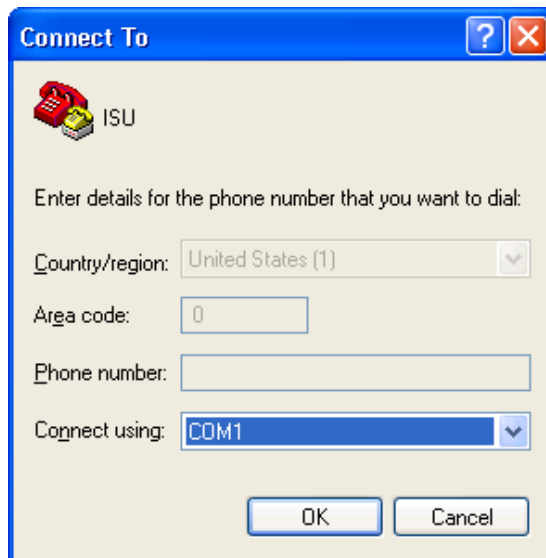
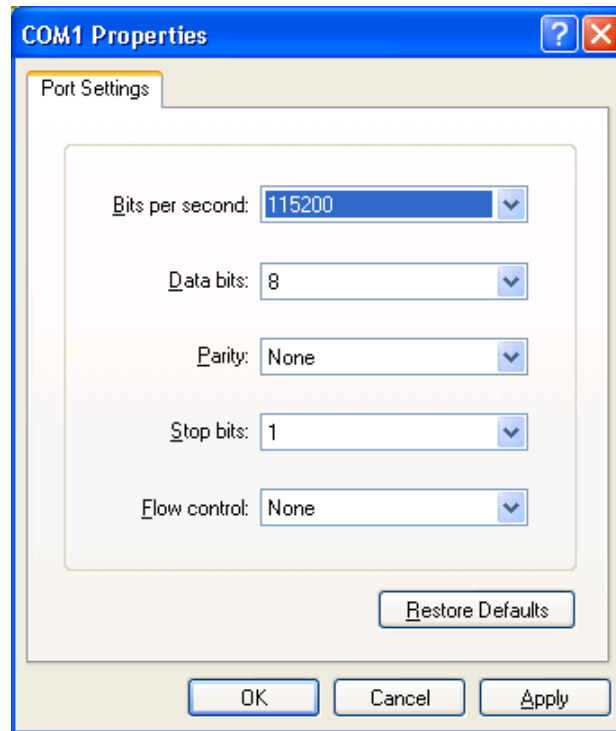

Figure 4-26 Connect to interface
Figure 4-27 Setting serial port parameters
2. Type 'ISU' in the **Name** field and click **OK**, and the interface shown in Figure 4-26 will appear.
3. Select the connected serial port No. of the computer (such as 'COM1' shown in Figure 4-26 ) and click **OK**, and the interface shown in Figure 4-27 will appear.
4. Set the serial port parameters according to Figure 4-27, and click **OK**.